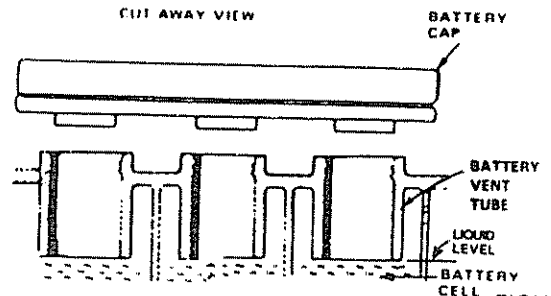

FIGURE 3
- Fill each cell with battery acid. Add the acid until it reaches the bottom of the vent tubes (Fig. 3) Do not add the acid beyond this level or the additional acid can come out when the battery is charged.